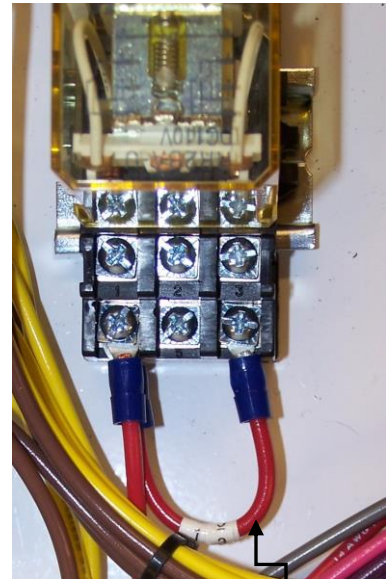

Figure 6
1. Remove the upper and lower blue wires from the Safety Relay (Figure 4) and terminal blocks #6 & #7. Install #12 Gray Wire as shown in Figure 5. Install #13 Red jumper wire as shown in Figure 6.